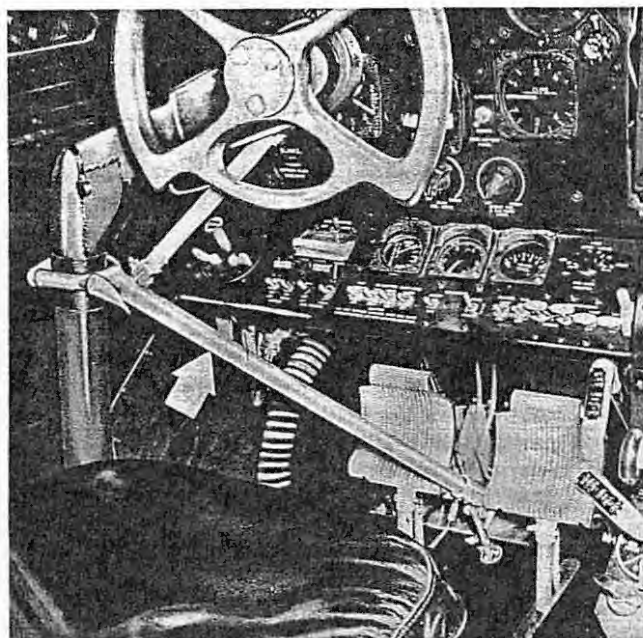

Figure 1-14. Surface Control Lock
- Pinch pins together and place between rudder pedals, allowing pins to enter holes in the rudder pedals (figure 1-14).